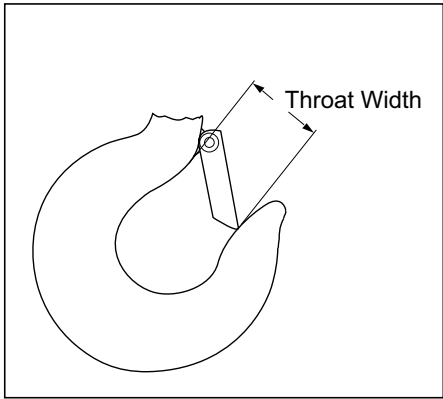

Figure 11. MHP1300
1. Lubricate hook and latch pivot points. Refer to Figure 11, p. 23, A. Hook latch pivot point. Hook and latch should swivel/pivot freely.